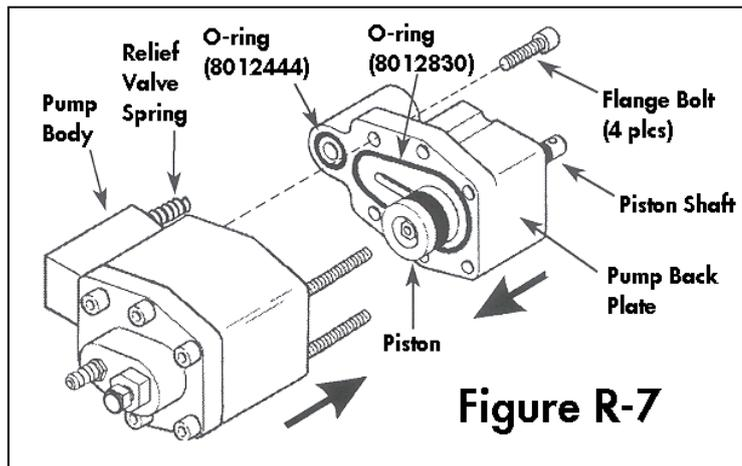

Figure R-7
- Lubricate the inside of the cylinder in the pump body with silicone grease. Insert the piston assembly through its hole in the pump back plate and slide it as far as it will go toward the pump back plate, as shown in **Figure R-7**. Install the two o-rings (8012830) and (8012444) in their grooves in the pump back plate. Make sure the relief valve spring is installed in the pump body. Bring the pump back plate and pump body together carefully, first guiding the piston into the cylinder in the pump body, and then pressing the back plate as close as possible to the pump body. Install the four sockethead flange bolts and tighten snugly (approximately 120–140 in.-lbs.)